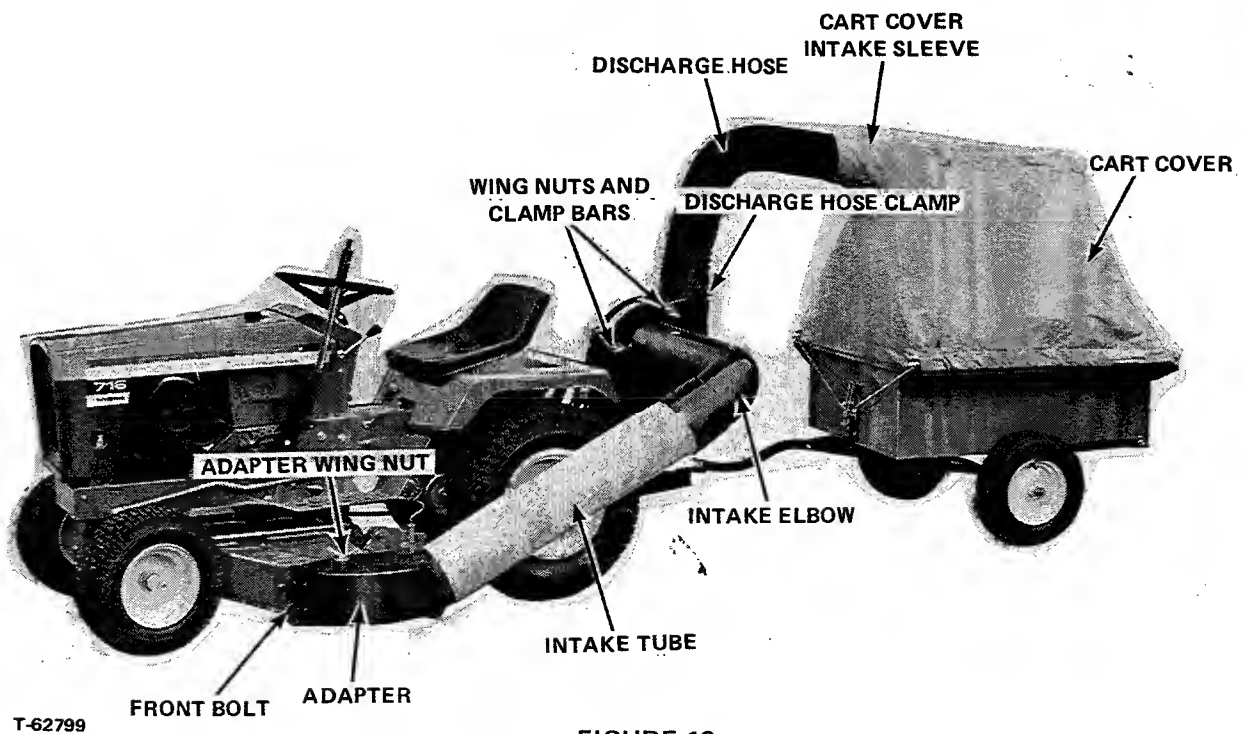

FIGURE 13
7. Slip one end of the intake tube over the rear end of the adaptor on end of mower housing. Slip the other end inside the short end of the intake elbow and at the same time place the intake flange on the other end of the intake elbow flat against the L.H. face of the vacuum collector above the fan intake and slide the flange down into the several retaining clips welded to fan intake sheet. When flange is fully seated under the retaining clips swing the clamp bars under the wing nuts down over the upper part of intake flange and tighten wing nuts. Tighten locknuts against wing nuts. (See Figure 13.)
8. Place one end of the discharge hose over discharge deflector and discharge opening of blower and fasten in place with hose clamp (Figure 13).
9. With cart hitched to the drawbar on rear of vacuum collector frame, place rear end of discharge hose inside the cart cover intake sleeve, pull sleeve forward and tighten sleeve strap around discharge hose to hold it in place as shown in Figure 13.
3. Remove adaptor wing nut (Figure 13) and remove adaptor from end of mower housing. **DO NOT** remove the long bolt in top of housing from which wing nut was removed.